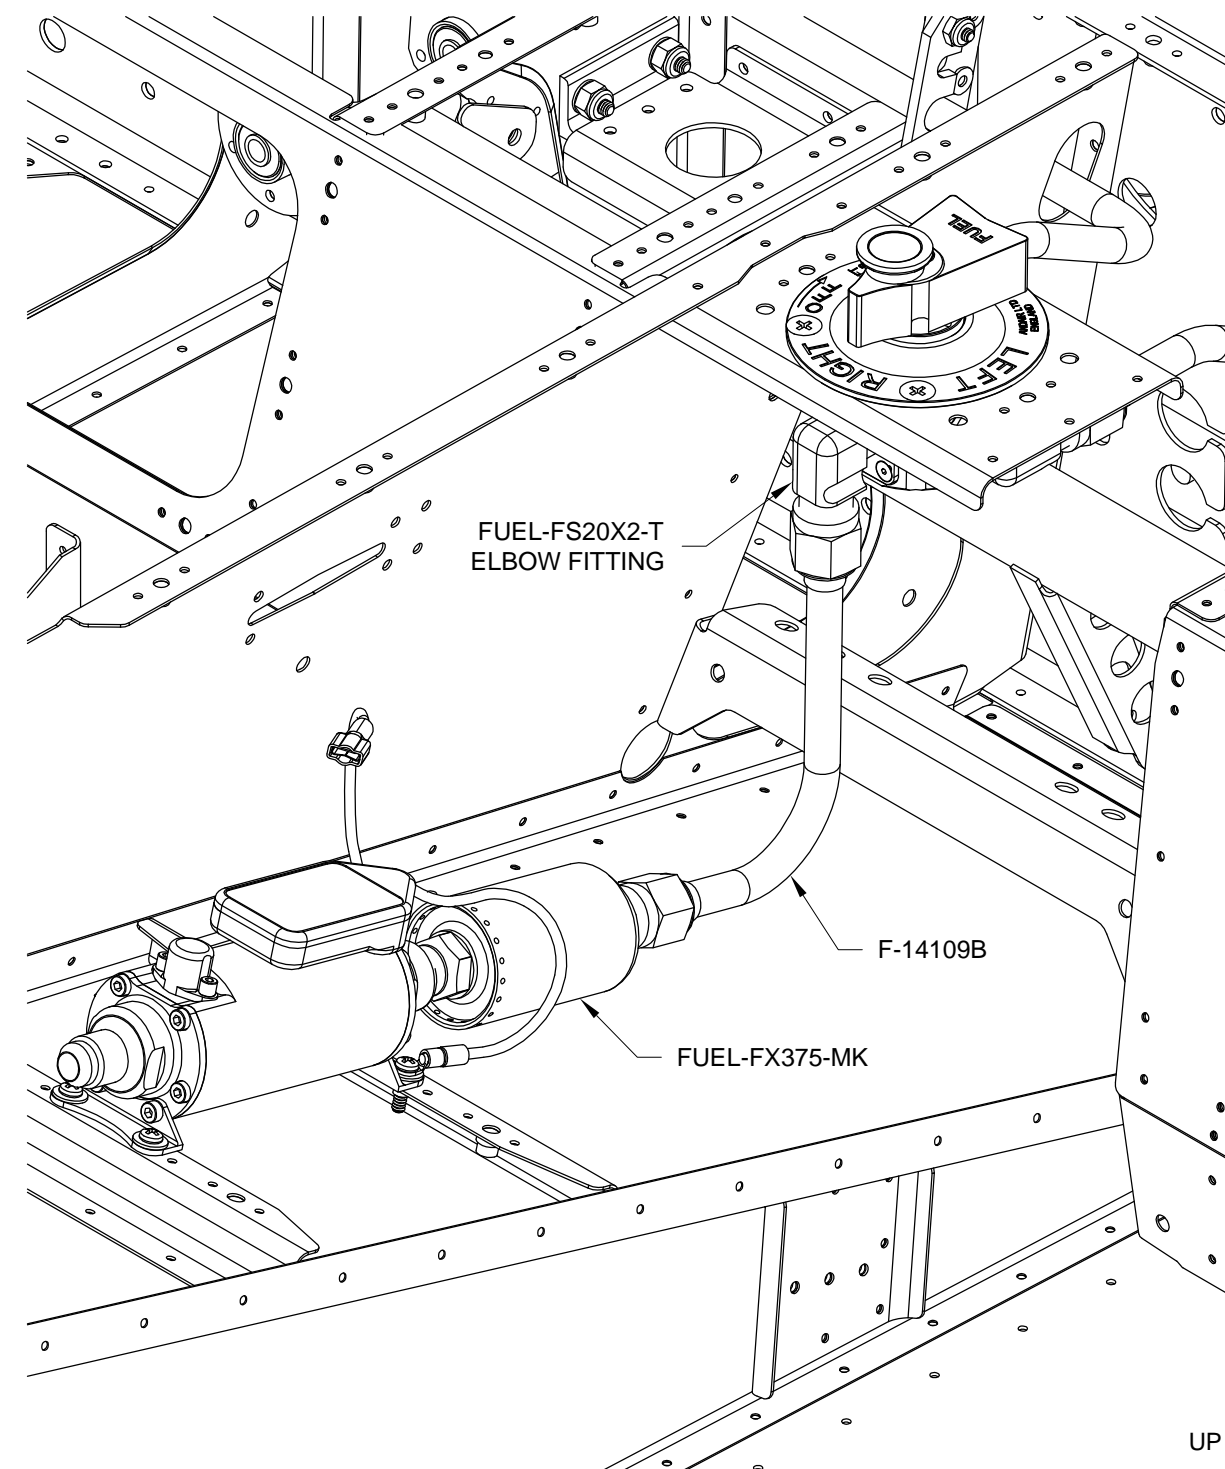

FIGURE 2: INSTALL VALVE-FILTER FUEL LINE
Step 6: Install the F-14109B Valve-Filter Fuel Line between the FUEL-FS20X2-T Fuel Selector Valve and FUEL-FX375-MK Fuel Filter as shown in Figure 2.